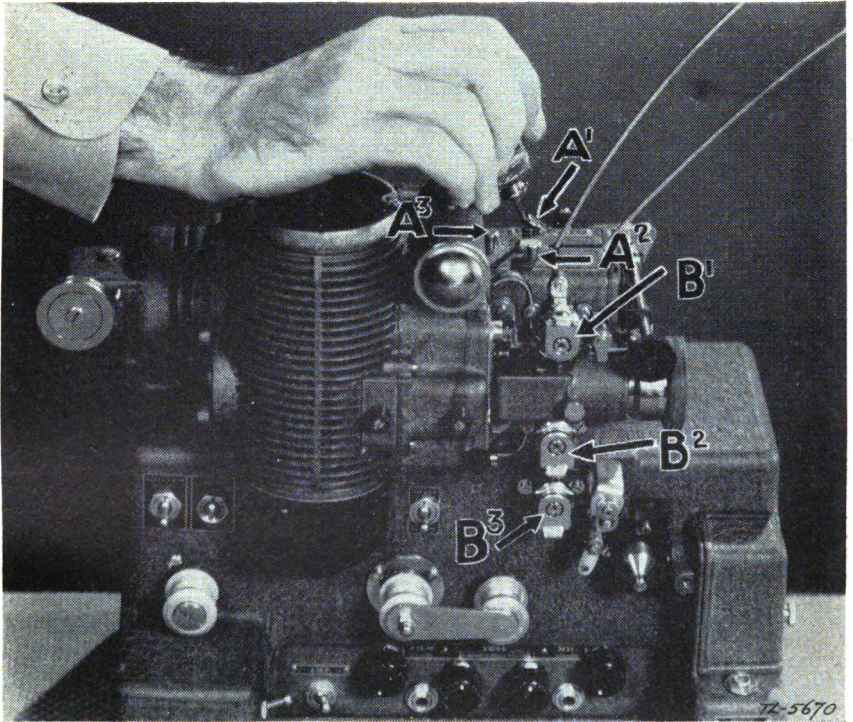

FIGURE 58.—Oiling system of Bell & Howell projector.
*c. Bell & Howell.*—Place one drop of oil in cups *A*1 and *A*2 (fig. 58) after every 4-hour period of operation. Oil *A*3 with one drop every 16 hours. Saturate sprocket felts *B*1, *B*2, and *B*3 every 3 months.